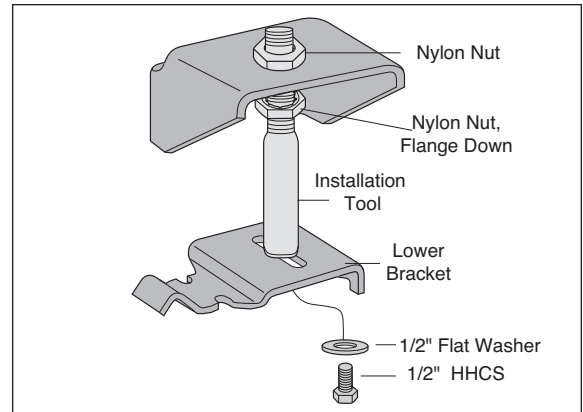

Figure 4
2. Secure the upper bracket (B) to the installation tool (D) using the provided nylon nut (F) (Figure 4).
3. Loosely attach the tool to the lower bracket (C) using $\frac{1}{2}$ " flat washer (H) and $\frac{1}{2}$ " bolt (G). Refer to Figure 4. Leave loose for adjustment.